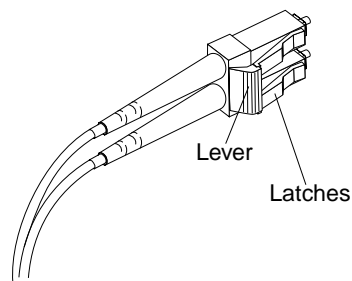
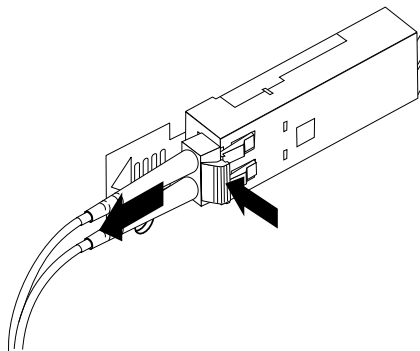

Figure 19. LC-LC Fibre Channel Cable lever and latches
Figure 20. Removing the LC-LC Fibre Channel cable
1. On the end of the LC-LC cable that connects into the SFP module or host bus adapter, press down and hold the lever to release the latches, as shown in Figure 19 on page 22. Carefully pull on the connector to remove the cable from the SFP module, as shown in Figure 20 on page 22.